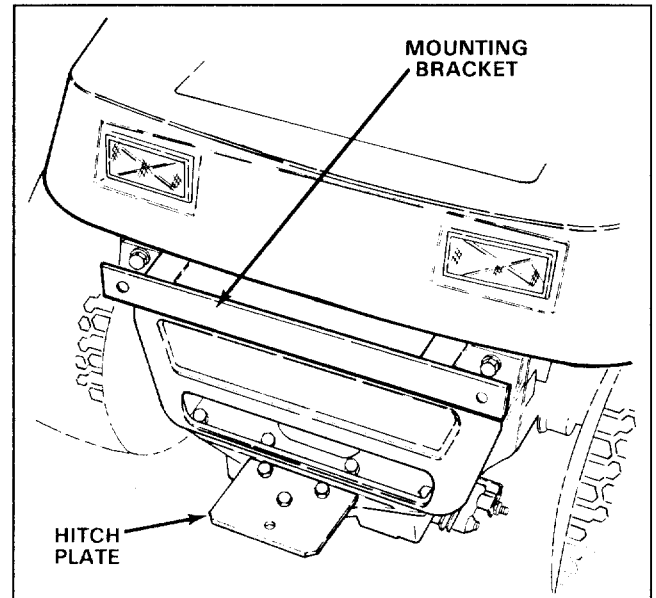

Figure 2
1. Secure mounting bracket to rear frame with (2) 5/16-18x3/4" lg. capscrews and locknuts, as shown in fig.2.
2. Loosely secure hitch plate to top of tractor hitch with (3) capscrews (7/8" lg.), (3) locknuts and (1) washer. Washer to be used under large hole in tractor hitch (Fig. 2).